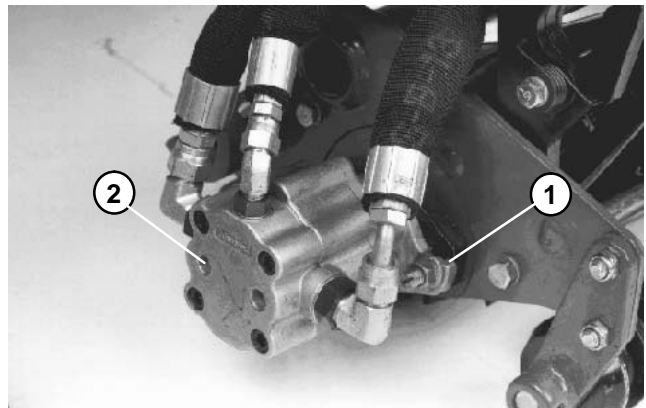

Figure 28
3. Loosen reel motor mounting nuts. Rotate motor clockwise so motor flanges clear studs. Pull motor off of cutting unit (Fig. 28).
5. Mount the hydraulic motor to the drive end of the cutting unit and secure with two capscrews provided. Rotate motor counterclockwise so motor flanges engages studs (Fig. 28).